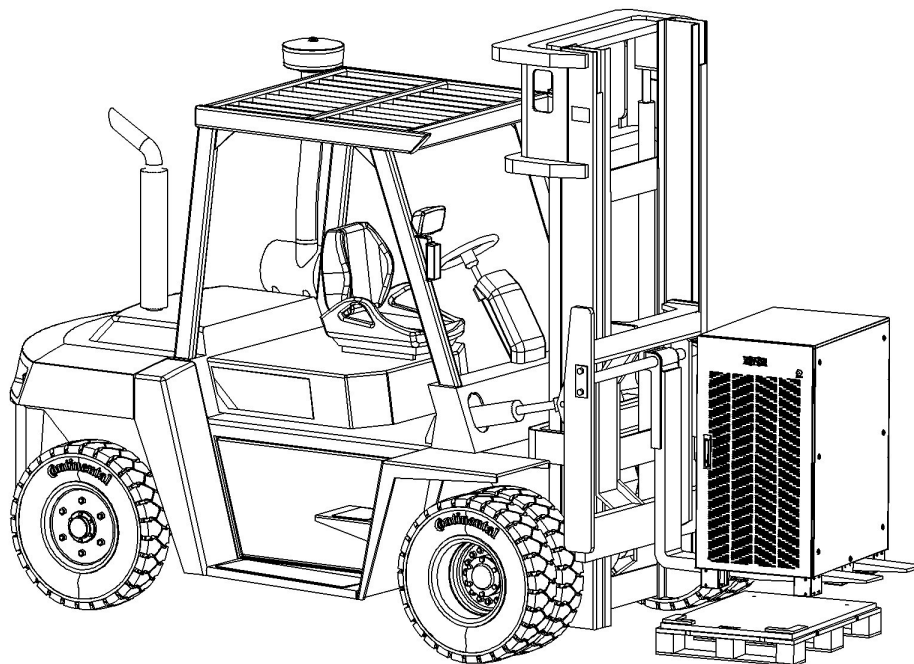

Figure 3-6
5. Lift the cabinet with a forklift and remove the packing pallets (Figure 3-6).